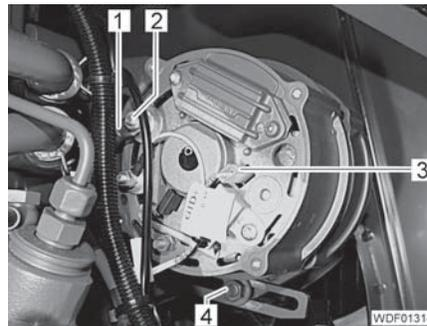

Fig. 416 Generator connections
- Unscrew the 2 nuts (Fig. 416,2) and remove the 2 cables (Fig. 416,1).
- Remove the plug (Fig. 416,3).
- Undo the nut (Fig. 416,4).
- Unscrew the nut (Fig. 416,4).
- Screw the nut (Fig. 416,4) with the washer onto the screw.
- Pull the generator sufficiently far out so that the V-belt is taut and tighten the nut (Fig. 416,4).
- Insert the plug (Fig. 416,3).
- Connect the 2 cables (Fig. 416,1), screw the 2 nuts (Fig. 416,2) with the washers onto the connections and tighten them.